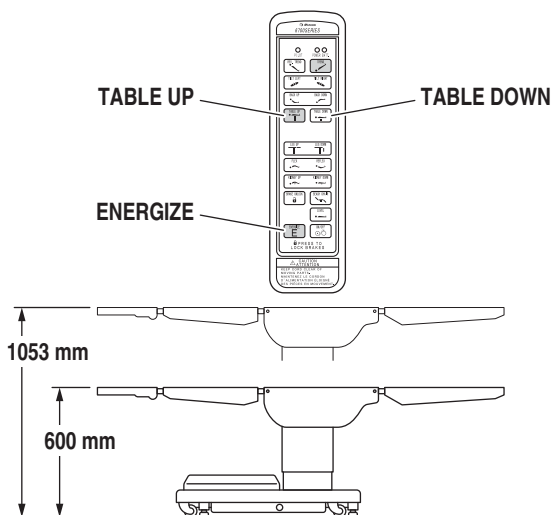

Figure 2-10. Elevation Function
e. Elevation To raise table top, press the ENERGIZE button and then the TABLE UP button (figure 2-10). The table will lift a patient weight of 540 kg up to a maximum height of 1053 mm (1143 mm with X-Ray top and 50 mm pad). To lower the table top, press the ENERGIZE button and then the TABLE DOWN button. The table top will go down to a minimum height of 600 mm.